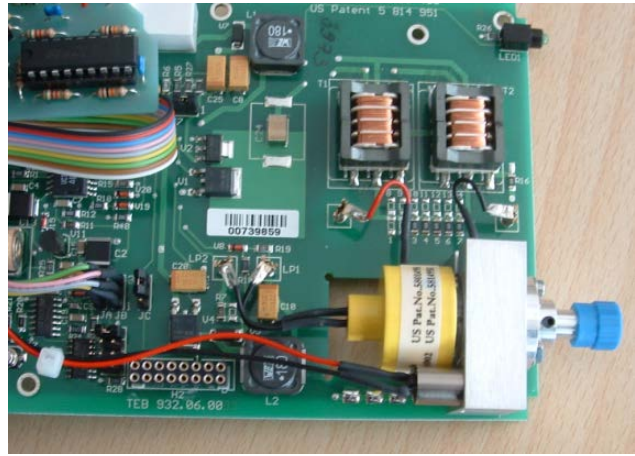

Figure 2
6. Pull the bulb softly in back direction (see figure 2)